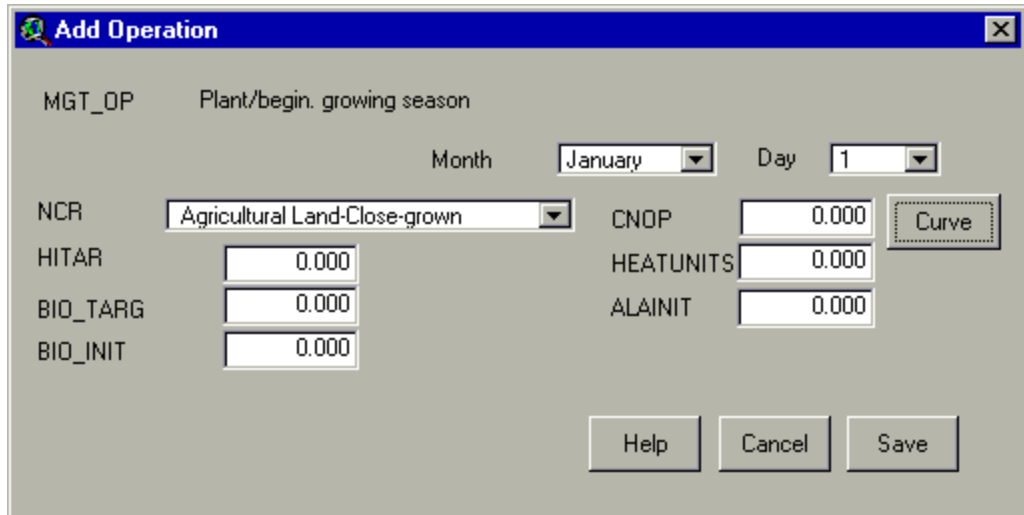

Figure 12.49
- d. The Add Operation dialog box will be displayed (Figure 12.49).
- e. The fields in the dialog box will vary depending on the type of operation added and the scheduling method used in the HRU. Figure 12.49 shows the input parameters for a plant operation. Figure 12.50 displays the input parameters for an irrigation operation; Figure 12.51 displays the input parameters for a fertilizer application; Figure 12.52 shows the input parameters for a pesticide application; Figure 12.53 shows the input parameters for a tillage operation; Figure 12.54 displays the input parameters for a harvest only operation; Figure 12.55 displays the input parameters for a grazing operation; Figure 12.56 shows the input parameters for an auto-irrigation operation; Figure 12.57 shows the input parameters for an auto-fertilization operation; Figure 12.58 shows the input parameters for a harvest and kill operation; Figure 12.59 shows the input parameters for a kill operation; Figure 12.60 displays the input parameters for a street sweeping operation; and Figure 12.61 displays the input parameters for a release/impound operation.